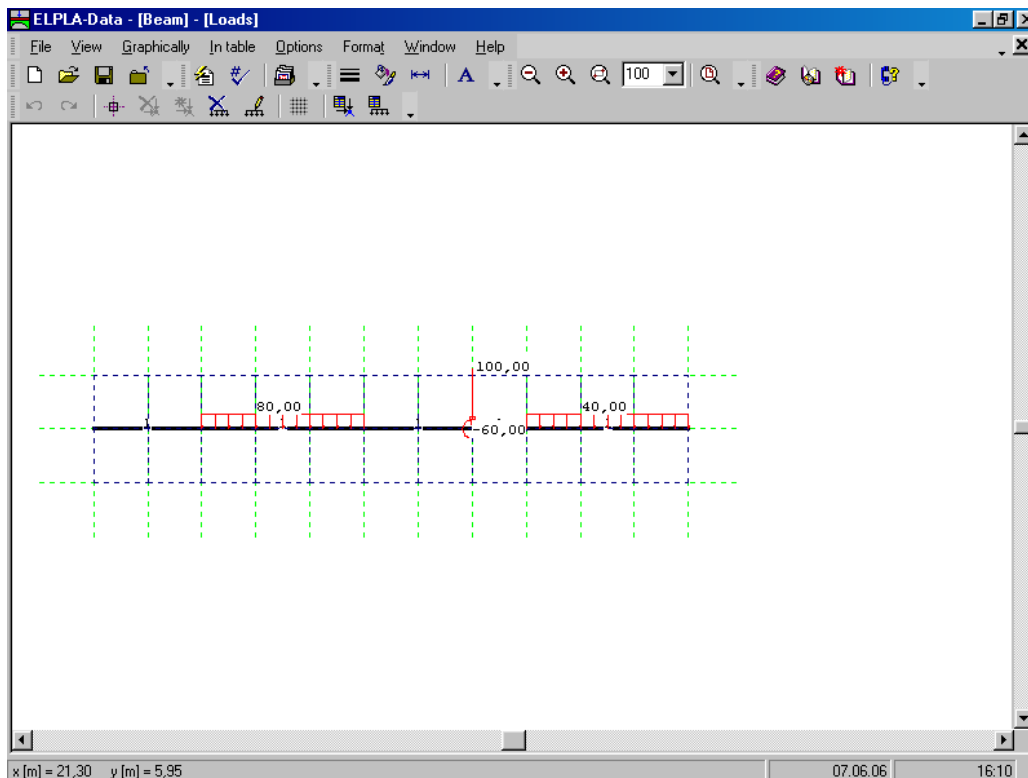

Figure 8-33 Beam loads on the screen
Use the same steps to input the uniform distributed load on the other loaded member. After you have completed the definition of the load data, the screen should look like the following Figure 8-33.
- Choose "Save loads" command from "File" menu in Figure 8-33 to save the load data
- Choose "Close loads" command from "File" menu in Figure 8-33 to close the "Loads" embedded program and return to the main window of *ELPLA-Data*